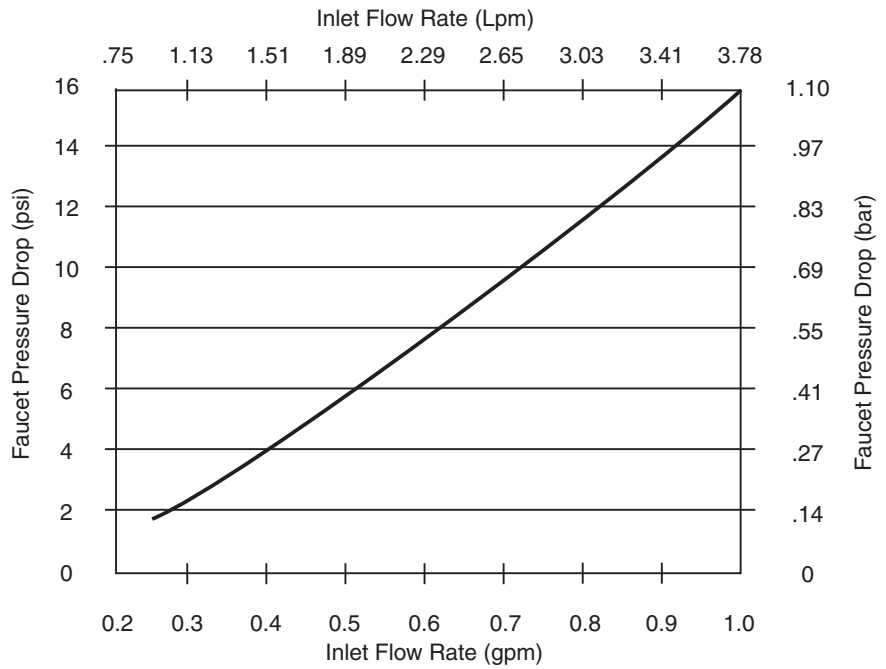

Figure 8
2. Using the estimated flow rate found in step 1 above, find the pressure drop through the tubing with Figure 8.
**A:** According to Figure 8, the faucet pressure drop will be 3.8 psi (0.26 bar).
Use Figure 8 and the Inlet Flow Rate of 0.49 gpm to estimate the Faucet Pressure Drop =